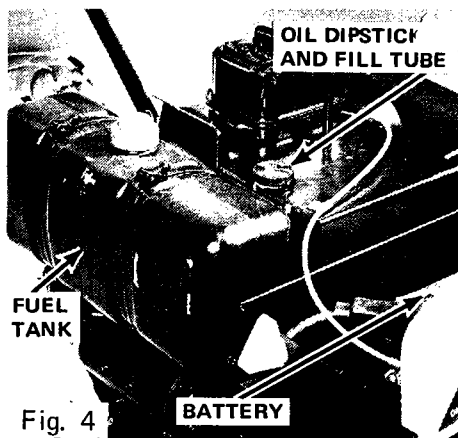

Fig. 4
1. Check for proper level of engine oil. Fill crankcase thru dipstick opening. The oil level is indicated by marks on the dipstick. See Fig. 4.
Refer to Figure 4 for battery and its location.
The engine oil level must be maintained in the "safe" operating range at all times. Oil level must be between the "L" (low) and "F" (full) marks on the dipstick, see Fig. 4. Clean area around dipstick so dirt does not fall into crankcase when dipstick is removed. Check daily and add oil as necessary to maintain proper level — **DO NOT OVERFILL.** Oil level must not exceed the "F" mark.